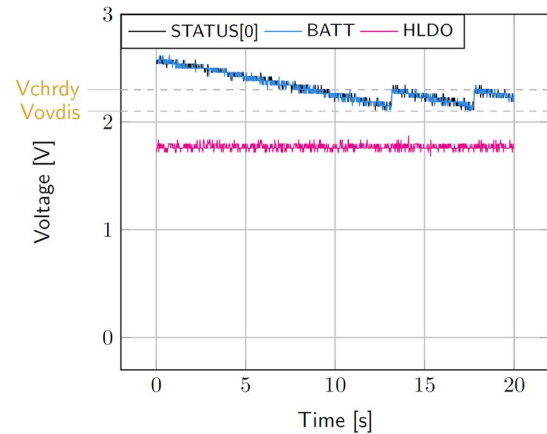

Figure 6: Switching from **SRC** to the primary battery
- **BATT**: Voltage decreases as the system consumes the power accumulated in the storage element. The voltage reaches **VOVDIS** and then rises again to **VCHRDY** as it is recharged from the primary battery (see Figure 6).
- **STATUS[0]**: Never de-asserted as the LDOs are still functional (see Figure 6).
- **HVOUT**: Stable and not affected by switching on the primary battery (see Figure 6).